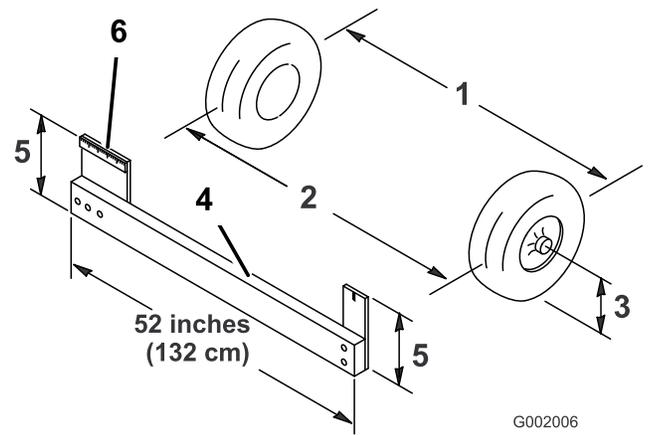

Figure 51
4. Measure the distance between both of the front tires at the axle height at both the front and rear of the front tires (Figure 51).
Note: You will need a fixture or alignment gauge for measuring the rear of the front tires at axle height. Use the same fixture or alignment gauge to accurately measure the front of the front tires at axle height (Figure 51).